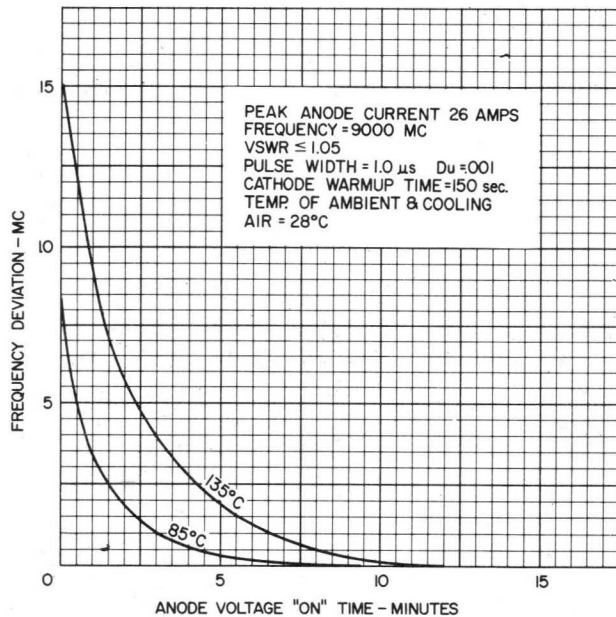

Figure 7—Typical Frequency Stabilization Characteristic.
**Thermal Stabilization**—When pulsed high voltage is applied several minutes are required before the anode block reaches a stable temperature. There is a frequency drift occurring during this initial stabilization time which is dependent upon the particular cooling system used. A stabilization curve for a specific installation of the X-band tunable magnetron is shown in Figure 7.